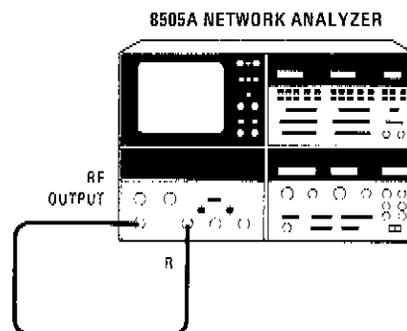
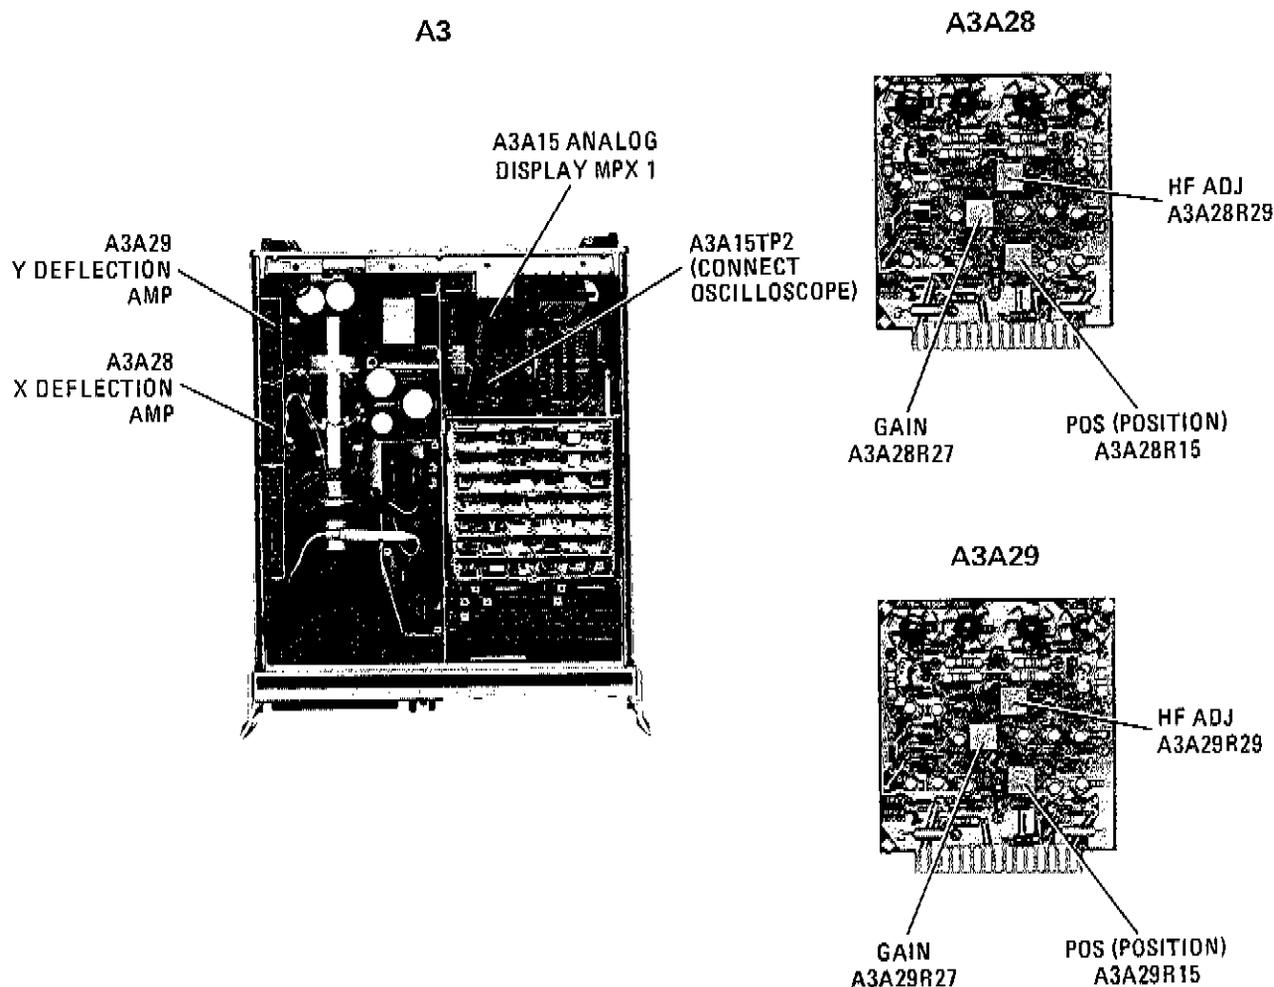

Figure A5-22. Display Multiplex and Deflection Amplifiers Test Setup
Figure A5-23. Adjustment Locations for X and Y Deflection Amps
- b. Connect equipment as shown in Figure A5-22.
- b. Connect equipment as shown in Figure A5-22. Put A3A28 X-Deflection Amplifier on extender board (See Figure A5-23).
- f. Set CH1 REF LINE POSN control on Display panel for 0.000 Vdc \pm 0.005 Vdc indication on DVM and adjust "POS" control A3A29R15 to place CRT trace on center graticule line. (See Figure A5-23.)